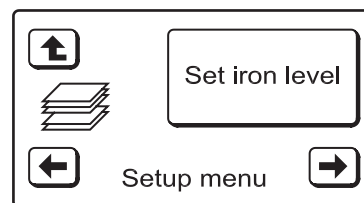

FIG. 48
2. Press the RIGHT (→) button three times to display the screen shown in Figure 48.